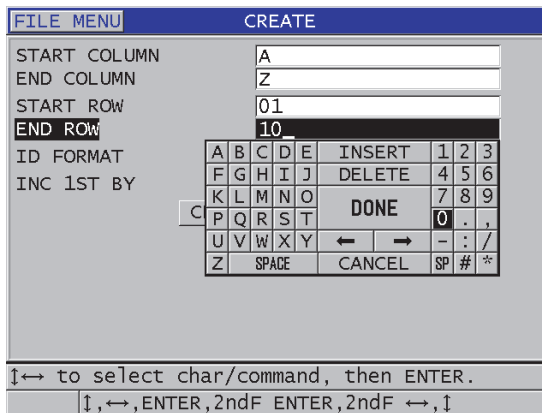

Figure 11-10 Configuring the ID range for a 2-D grid data file type
3. In the second page of the **CREATE** screen (see Figure 11-10 on page 192):